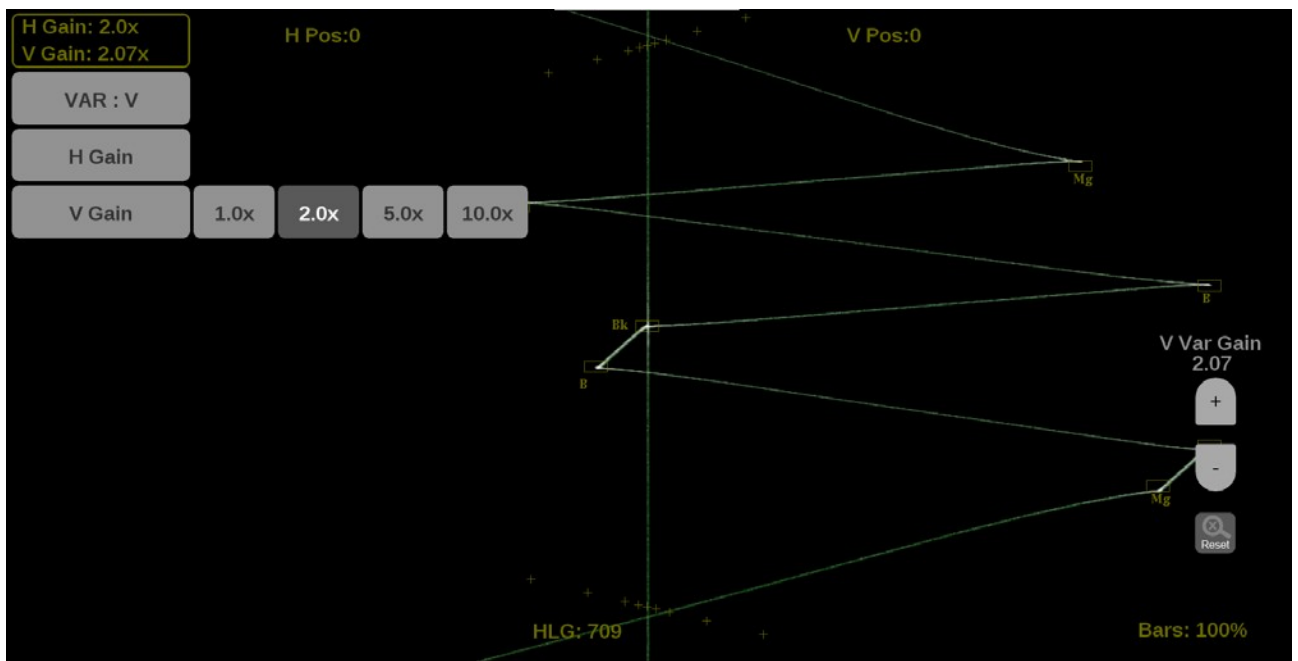

Figure 213: Lightning on-screen tools – vertical gain
- Select **V** to change the vertical gain. Variable gain allows you flexibility in changing the gain factor between 0.5x to 20.0x. (See Figure 213.)